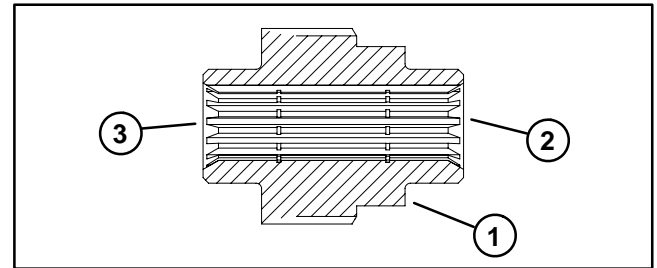

Figure 35
1. If splined brake shaft was removed from brake assembly, make sure that the stepped end of the shaft is aligned toward the hydraulic wheel motor (Fig. 35). Also, make sure that splines engage rotating discs in brake assembly.